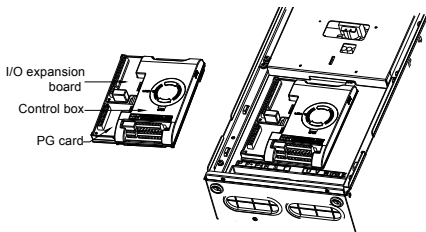

Figure 2 Schematic Diagram Of Assembly & Disassembly Of PG Card
Please refer to Figure 2 for disassembly and assembly' of PG card.
2. Pull PG card up (as shown in Figure 2) out from the socket of control panel.